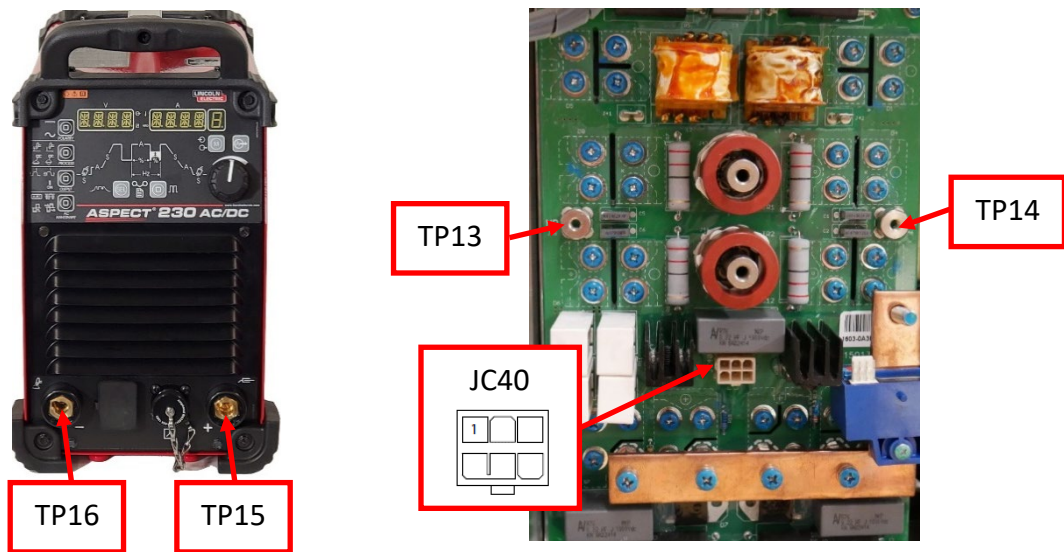

Figure F.4
B.3. Perform the active measurements in Test Table 2, refer to Figure F.4 for test point locations. **NOTE: DO NOT DISCONNECT WIRES FROM THE OUTPUT POWER BOARD .**